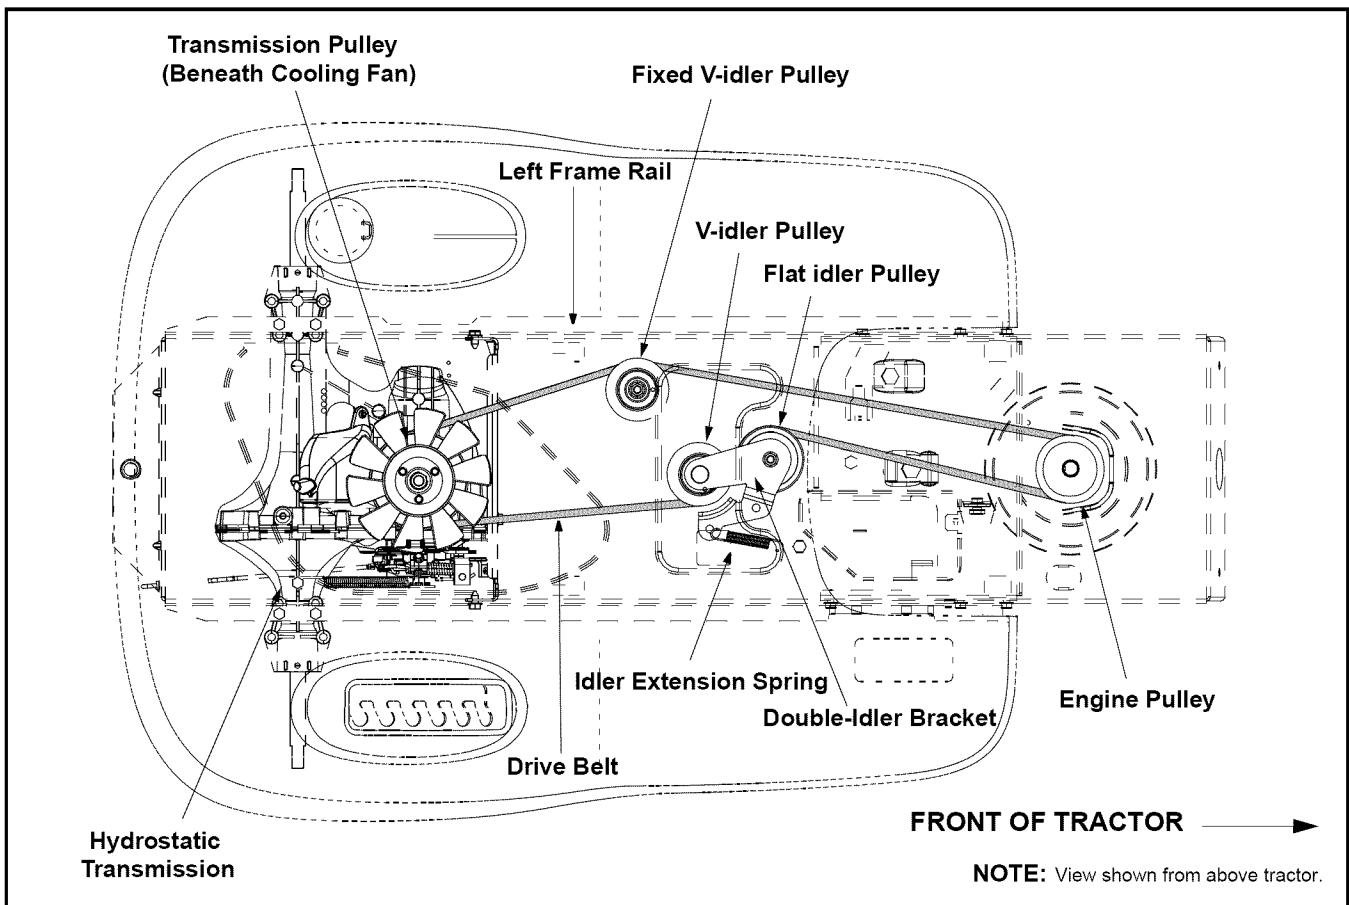

Figure 25
- Locate the fixed v-idler pulley found on the left underside of the frame. See Figure 25.
- Remove the drive belt by feeding it from front to rear, toward the hydrostatic transmission. See Figure 25 .
- Reroute the new belt around the pulleys and belt keepers, if present, EXACTLY as the old one was routed. Refer to Figure 25 .